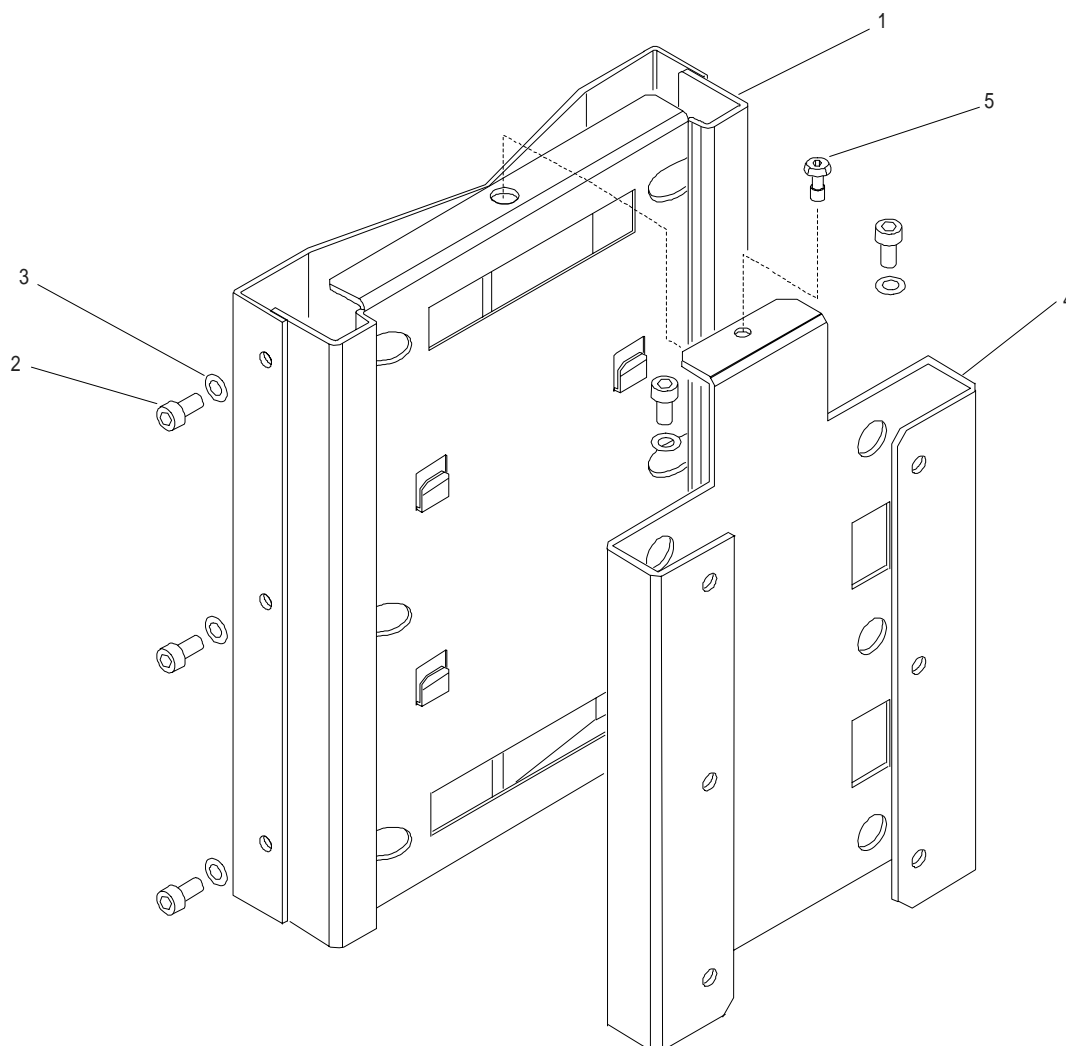

Fig. 3.4. BTSE: Wall mounting frame
- With reference to Fig. 3.4. fasten bracket (1) to the wall using six diameter 8 (2) screws and relative washers (3).
- Connect the BTSE joined with bracket (4) to bracket (1).
- Tighten the M5 hexagonal head cap screw (5) using the proper wrench supplied.